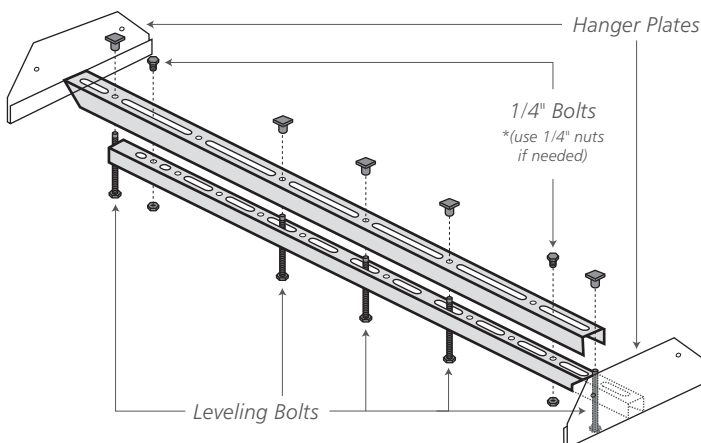

Figure 3
4. Thread the leveling bolts up through the holes in a pattern that will support the sink evenly. It works well to space the leveling bolts at 4" centers if possible. Raise the heights of the leveling bolts to approximately 1 1/2". (See Figure 3)